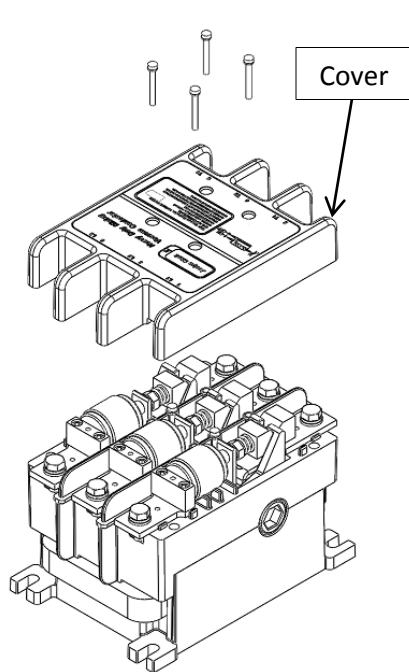

FIGURE 7
3. Remove the (4) four cover attachment screws from the contactor and remove the cover (FIGURE 7).
8. Reinstall the cover and secure it with the original mounting hardware. Tighten the (4) four screws to 12 inch-lbs (FIGURE 7).